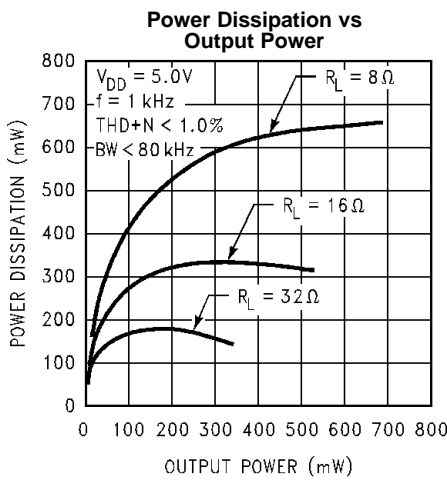

Figure 21.
- (1) All voltages are measured with respect to the ground pin, unless otherwise specified.
- (2) Absolute Maximum Ratings indicate limits beyond which damage to the device may occur. Operating Ratings indicate conditions for which the device is functional, but do not ensure specific performance limits. Electrical Characteristics state DC and AC electrical specifications under particular test conditions which ensure specific performance limits. This assumes that the device is within the Operating Ratings. Specifications are not specified for parameters where no limit is given, however, the typical value is a good indication of device performance.
- (3) Typicals are measured at  $25^{\circ}\text{C}$  and represent the parametric norm.
- (4) Limits are specified to TI's AOQL (Average Outgoing Quality Level).
- (5) Datasheet min/max specification limits are specified by design, test, or statistical analysis.
- (6) The quiescent power supply current depends on the offset voltage when a practical load is connected to the amplifier.
- (7) The NGY0010A package has its exposed-DAP soldered to an exposed  $1.2\text{in}^2$  area of 1oz printed circuit board copper.
- (8) The DGK008BA package is thermally limited to 595 mW of power dissipation at room temperature. Referring to Figure 21 in Typical Performance Characteristics, the power dissipation limitation for the package occurs at 300 mW of output power. This package limitation is based on  $25^{\circ}\text{C}$  ambient temperature and  $\theta_{JA} = 210^{\circ}\text{C}$ . For higher output power possibilities refer to POWER DISSIPATION.